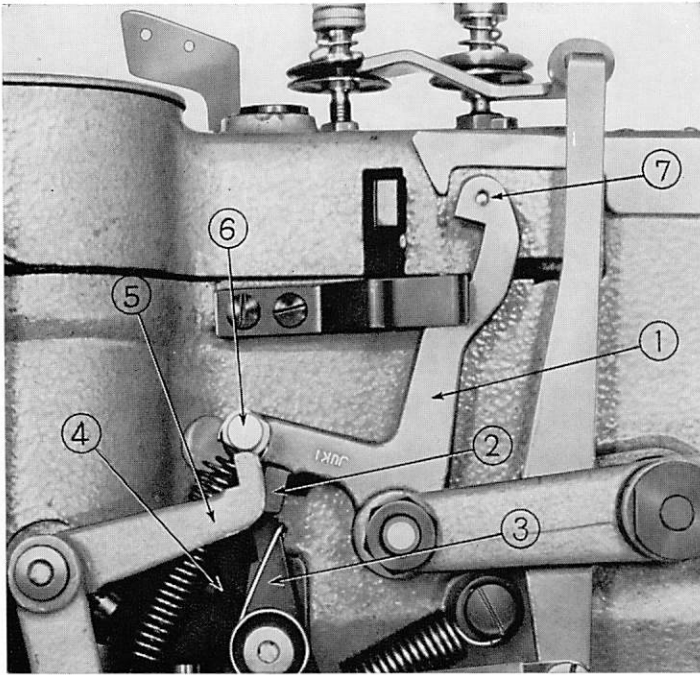

Fig. 13
This action results only when, as shown in Fig. 13, the ratchet pawl ② of the knife bar driving lever bell crank ① is not “riding” atop the ratchet pawl (B) ③, thus creating a space between the ratchet pawl (B) ③ and ratchet pawl (A) ④ and the claw part ② is trapped between them.